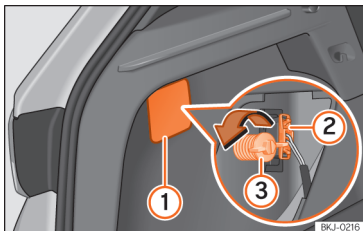
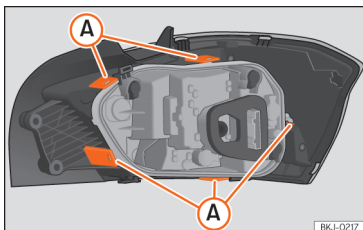

Fig. 162 Boot: access to the bolt securing the tail light unit.
Fig. 163 Retaining tabs on reverse side of tail light.
- Remove the lid, levering the flat side of a screwdriver into the recess >>> Fig. 162 ①.
- Remove the bulb connector ②.
- Unscrew the bolt securing the light ③ by hand or using a screwdriver.
- Remove the bulb holder unlocking the retaining tabs >>> Fig. 163 A.